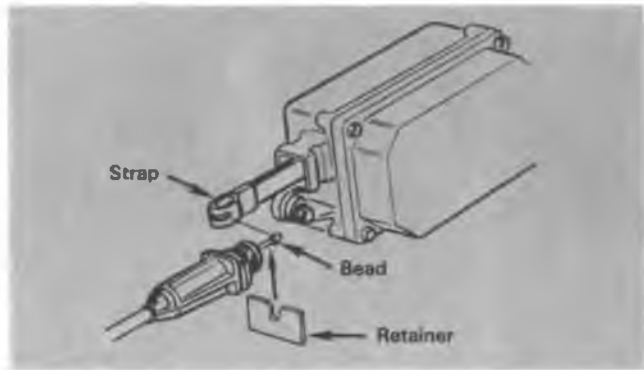

Figure 7-1 Cable Installation
- Step 1 Attach cable bead to cruise module strap end fitting and remove retainer (Figure 7-1).